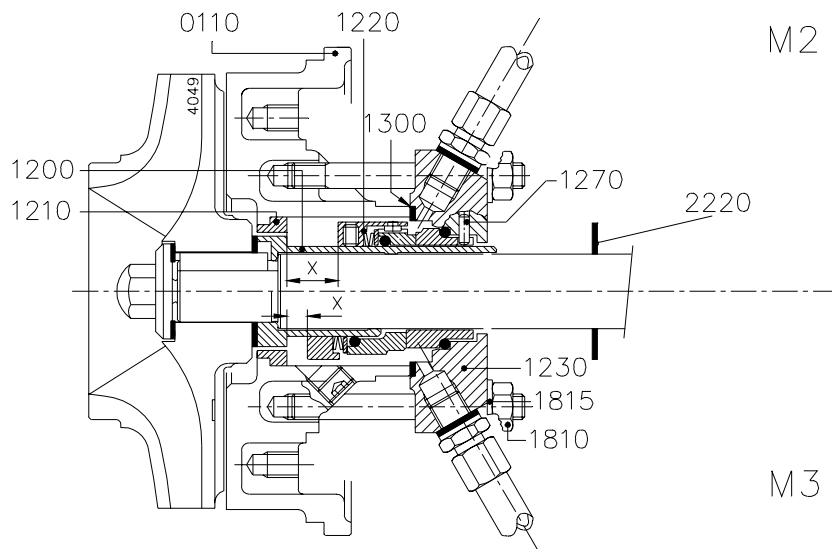

figure 32 Mechanical seal M2-M3.
The item numbers used are referring to figure 32.
- 6 Fix the rotating part of the seal on the shaft sleeve according to dimension X in the table below. See also figure 32.